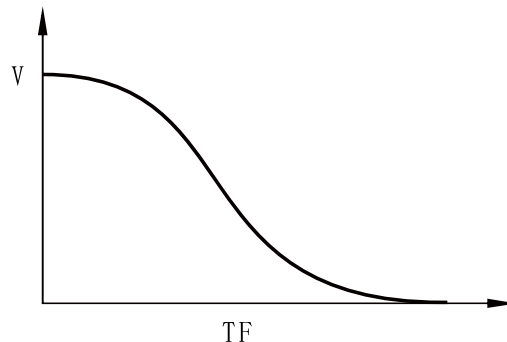

Figure 12-6-1
- a) The soft starter will be under soft stop mode when code F2 is not set to 0. Figure 12-6-1 shows the output current wave of the soft stop mode. T is the soft stop time set by the code F2. Under this stop mode, power supply of the motor will be switched to thyristor output of the soft starter through the bypass contactor, and the output voltage of the soft starter will gradually drop from the full voltage to enable the rotation speed of the motor reduce smoothly to avoid mechanical shock until the motor stops running. The output cut-off voltage during soft start shall be equal to the starting voltage during start.